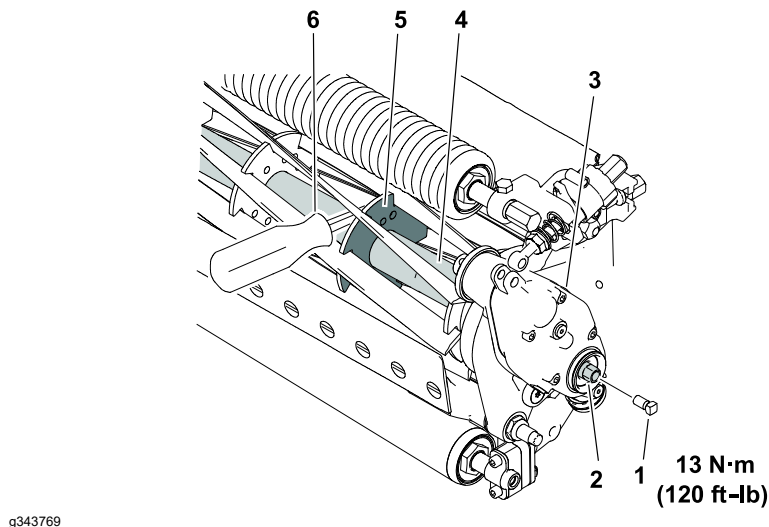

Figure 206
5. Install a 5/16–18 X 5/8 inch square head set screw (Toro p/n 1-803022) in the end of the drive shaft and tighten to **13 N·m (120 in-lb)**; refer to (Figure 206).